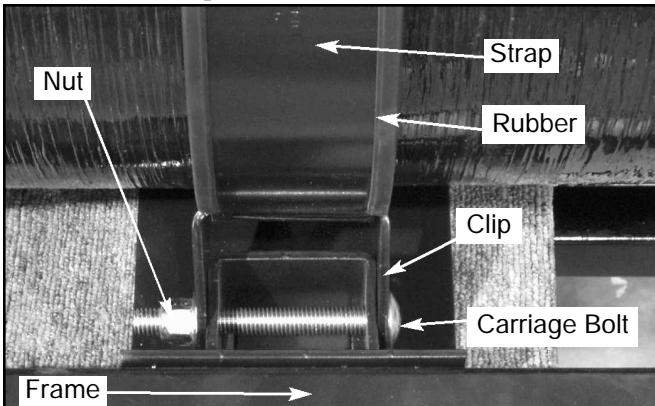

Figure 11-5 Clip to Frame Carriage Bolt
5. Remove the 1/2" Nylok nuts from carriage bolts (Figure 11-5) (4 ea. per tank) attaching the clips to the tank pack frame assembly. These Nylok nuts should be replaced when removed.
6. Attach a nylon lifting sling to the center of the tank to remove and lift most of the weight of the tank so as to remove the carriage bolts (Figure 11-5) that attach the clips to the tank pack frame. Place bolts on a clean surface for re-use during installation. The tank is ready to be removed from the tank pack by lifting the tank up and out of the tank pack frame.
6. Remove the nuts from the carriage bolts (4 ea. per tank) attaching the clips to the tank pack frame assembly. The Nylok nuts should be replaced when ever removed (reference Figure 11-5).
7. Attach a lifting sling to the center of the tank to be removed and lift most of the weight of the tank so as to remove the carriage bolts (Figure 11-5) that attach the clips to the tank pack frame. Place the bolts on a clean surface for re-use during installation. The tank is ready to be removed from the tank pack by lifting the tank straight up and guiding the tank past the latch pins and prop rod assemblies.